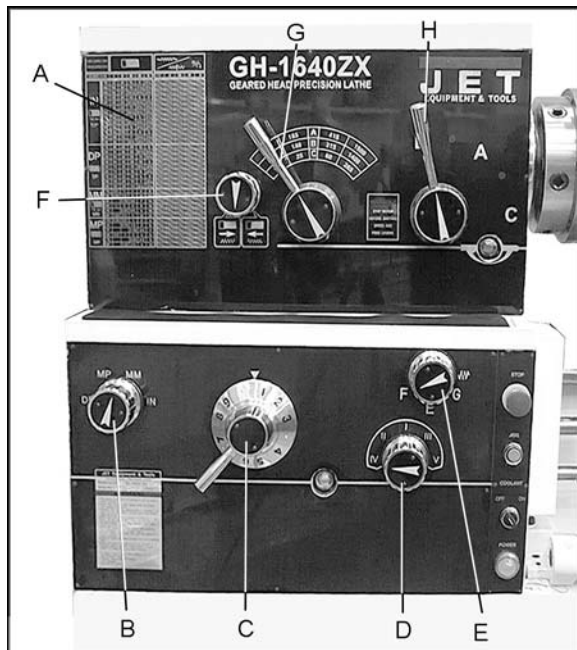

Figure 22
1. Reference the feed and thread chart on the front of the headstock (A, Figure 22).
2. Move levers and knobs (B/C/D/E, Figure 22) to the appropriate position according to the feed and thread chart.
1. Set forward/reverse lever (F, Figure 22) to desired direction.
2. Set selector levers (G/H, Figure 22) to desired R.P.M.
3. Select desired thread using levers (B/C/D/E, Figure 22).